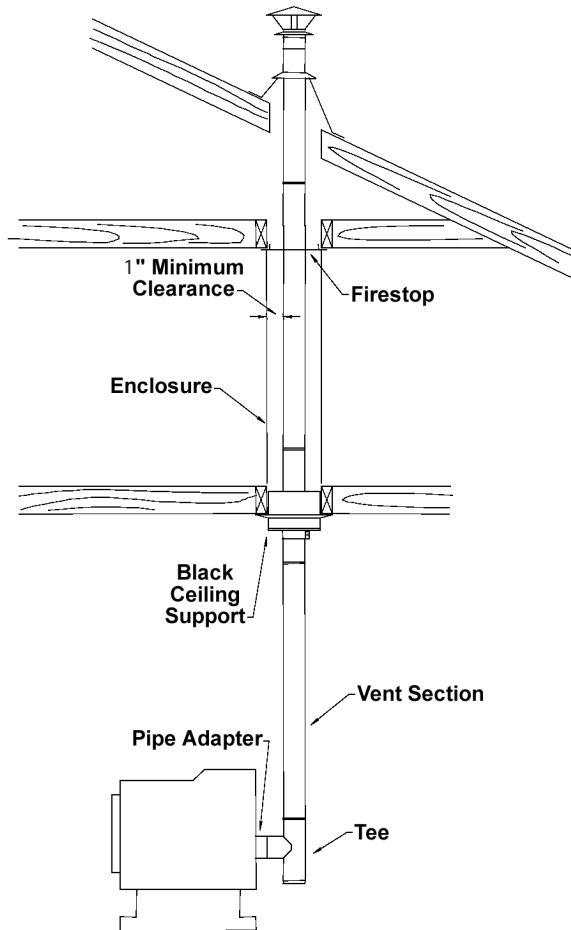

Figure 2
- 1.1 General vent layout is shown in Figure 2.
- 1.7 Install the black ceiling support from below the joist level, and fasten with 4 x 1.5" spiral nails or screws. See Figure 2.
- 1.11 Firestops are required where the vent penetrates a floor or ceiling. Cut a hole of the appropriate size in the ceiling/floor, and install the firestop from above or below the joist. Fasten the firestop with nails through the corners as per Figure 2.